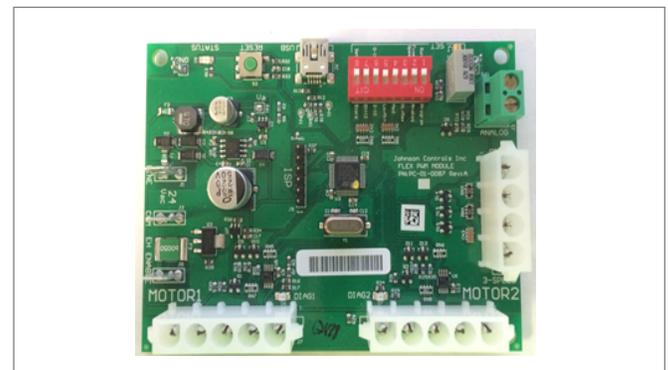

Figure 25 – G3 PWM Board
- a. Locate the G3 PWM board within the control enclosure (See Figure 25).